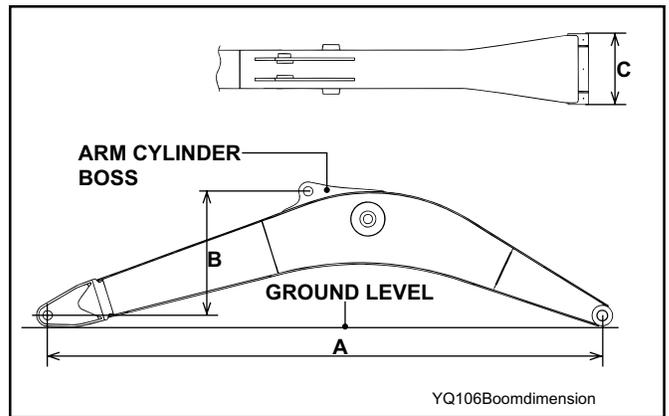

FIGURE 6.4A
F. BOOM– Figure 6.4A	6-4
F. BOOM— Figure 6.4A